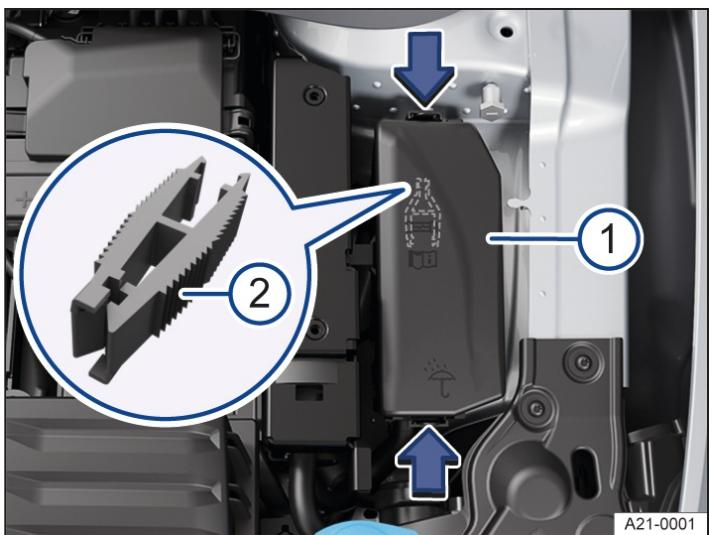

Fig. 1 In the engine compartment: fuse box.
In some vehicles, a pair of plastic pliers → *Fig. 1* 2 for removing fuses is located on the inside of the cover of the fuse box or on the fuse carrier.
2. Press the catches in the direction of the arrow → *Fig. 1* 1 to release the fuse box cover.